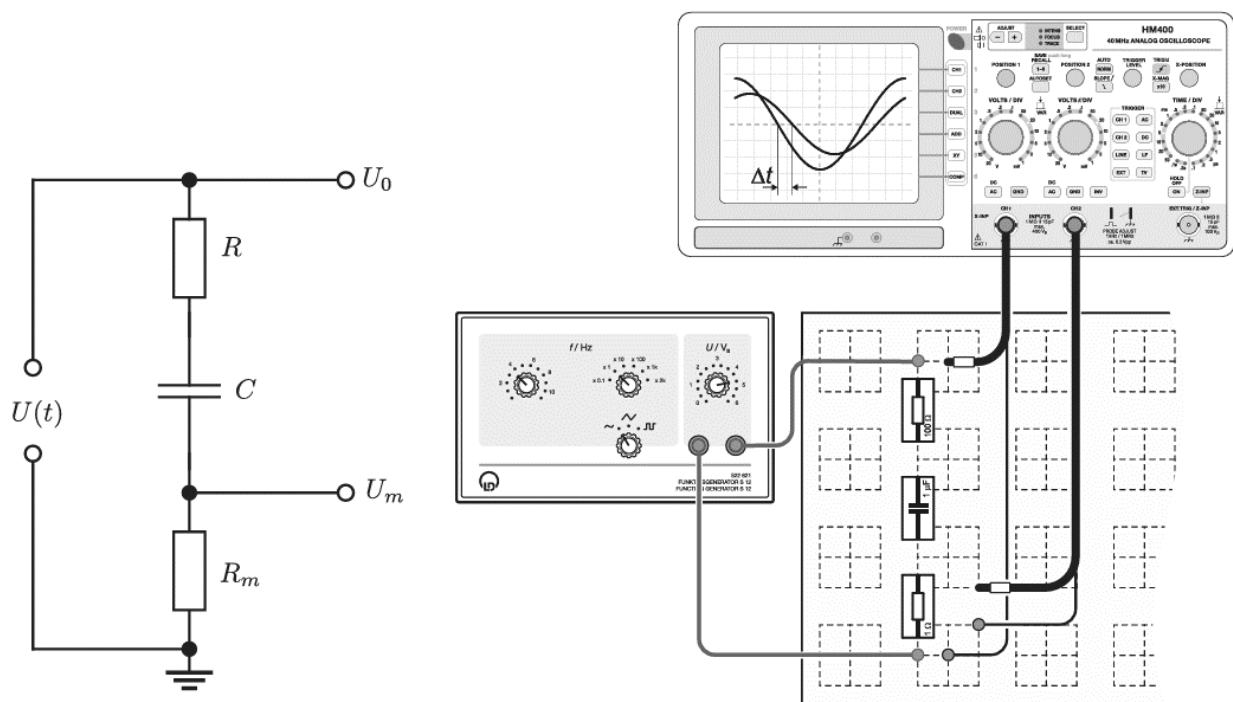

Fig. 36.4. Experimental setup for determining the impedance in circuits with capacitors and ohmic resistors in series connection
The experimental setup is illustrated in Fig. 36.4.
1. Connect the 10 μF capacitor as a capacitance in series with the 100 Ω resistor (Fig. 36.4).